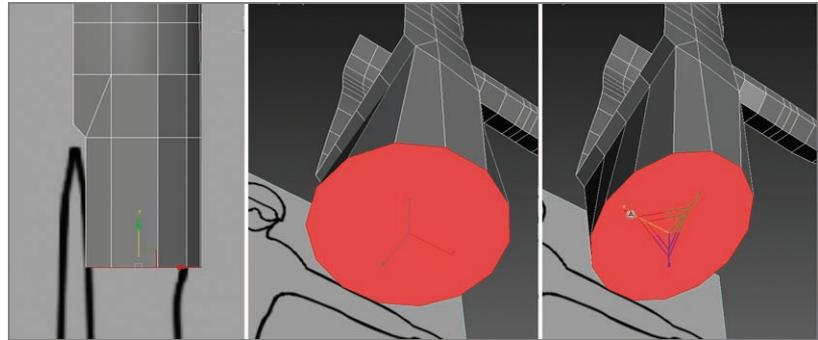

FIGURE 7.27 Creating the upper thigh
8. Enter Border mode, select the D-shaped border edge, and Shift+Move down on the Z-axis to extrude the upper thigh downward to the middle of the thigh, as shown in Figure 7.27 (left).
10. Enter Polygon mode and select the new poly. In the Graphite Modeling Tools tab > Polygons, select the GeoPoly tool to make the end of the thigh a more even shape, as shown in Figure 7.27 (middle).
11. Select the thigh's end polygon and scale on the X-axis, as shown in Figure 7.27 (right) to create a more oval shape.